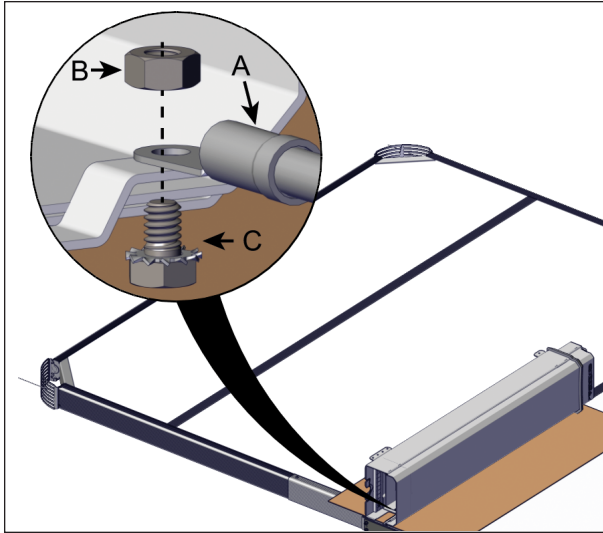

FIGURE 75: ATTACH THE CABLE TO THE BOTTOM OF THE MIDDLE SLEEVE
- One end of a cable is already attached to the top of the jack. Attach the other end to the bottom of the middle sleeve using the 1/4-20 hexagonal nut as well as the 1/4-20 x 5/16" hexagonal head screw + 1/4" internal/external tooth lockwasher assembly, see Figure 75.